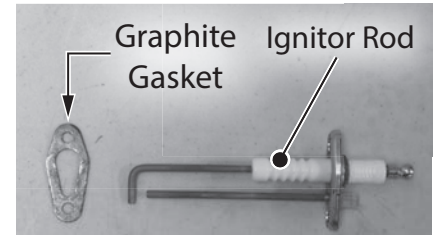

Figure 74 - Install ignitor rod and graphite gasket
- 9 Locate the new ignitor rod assembly and graphite gasket provided in the kit. Orient the graphite gasket as shown in Figure 74 and install to ignitor rod assembly.